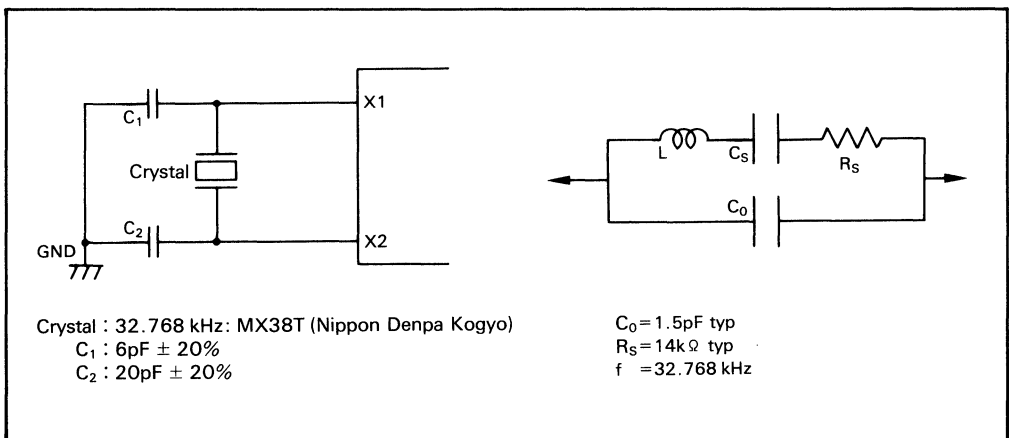

Figure 47. Oscillator Circuit
2. Oscillator stabilization time is the time until the oscillator (see Figure 47) stabilizes after V_{CC} reaches 4.0V after power-on. Time required to stabilize the oscillator (t_{RC}) must be obtained. Since t_{RC} depends on the crystal circuit constant and stray capacitance, please get the manufacturer's advice.